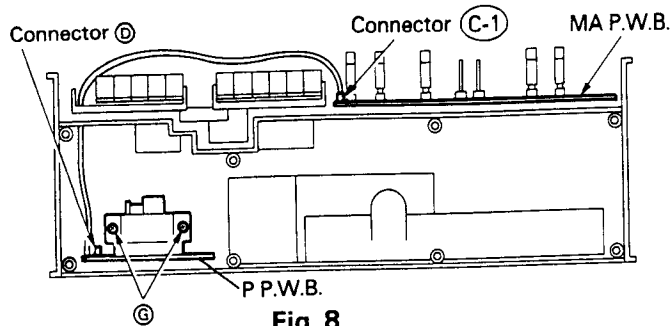

Fig. 8
- (1) After removing the top panel, remove the four mounting screws ⑥.
- (2) Remove the five connectors ③, and then lift the MA PWB upward.
6. P.P.W.B. (Fig. 8)